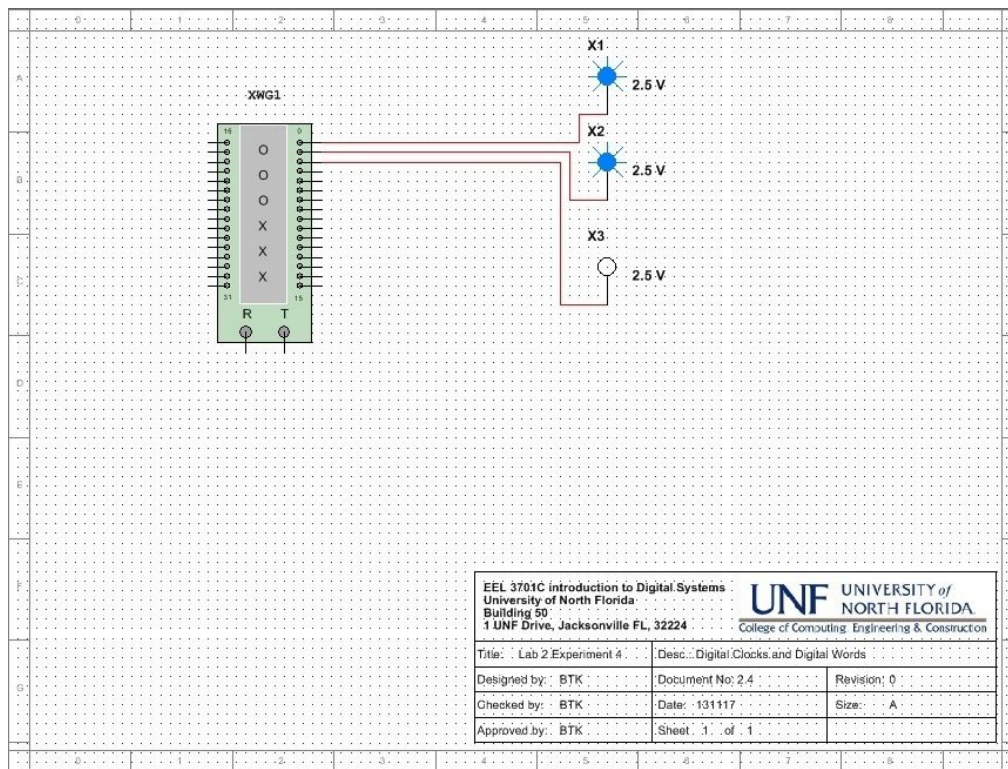

Figure 11. Using the Word Generator source.
- 5) Once you have placed the Word Generator source you need to wire it. Connect the first three pins on the right side of the Word Generator symbol (pins 0, 1, and 2) to the three PROBE_BLUE symbols as shown in Figure 11.